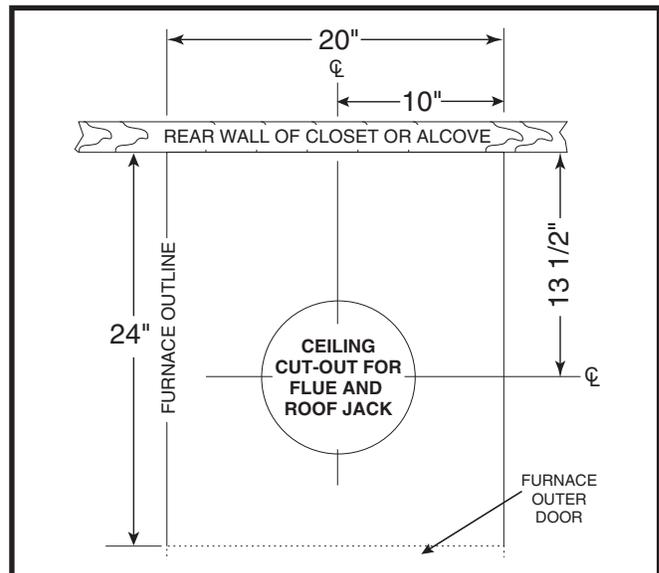

Figure 20. Cut-Out Dimensions for Flue & Roof Jack
1. Locate center of Roof Jack opening, measure 13 1/2” from the rear wall of closet or alcove along the center line of furnace and floor opening. See Figure 20.